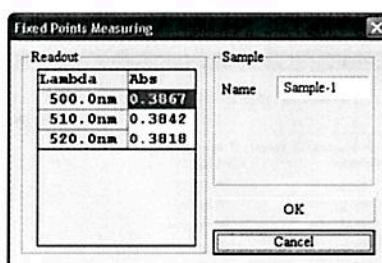

Fig. 4-4
7. Place a sample in the sample compartment. Click **Start** or to run a new measurement. The display will change to the following (Fig. 4-4). Key in the sample name in the **Name** box.